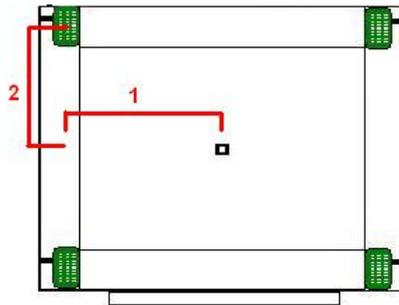

Figure 2-2: Marker_Phys_coords 1,2
Measure the distance from the calibration dot, to the reference line in the middle of the IR markers(1). Also, record half the distance between the IR markers(2) This is illustrated in Figure 2-2.